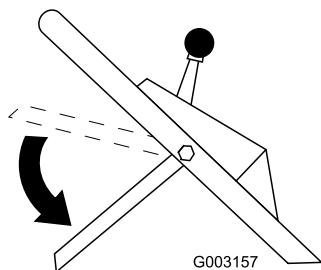

Figure 17
8. Move the control bar down to its lowest position (Figure 17).